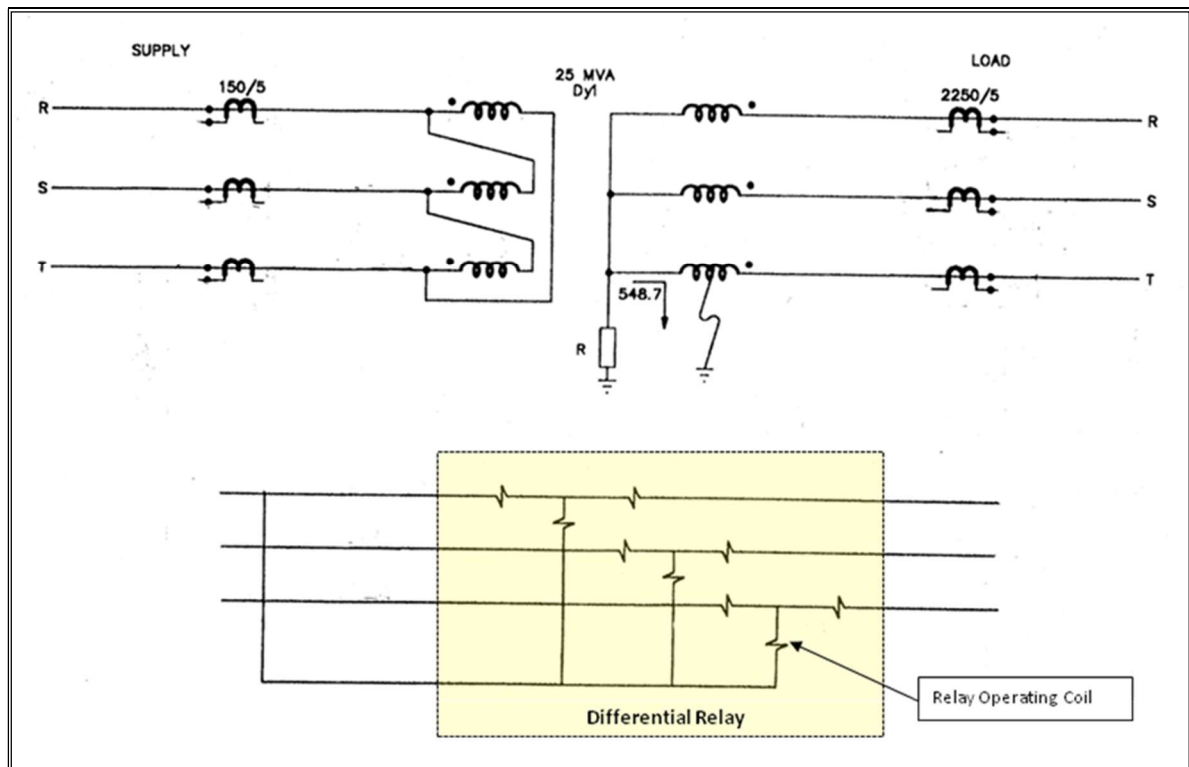

Figure Q3: Incomplete Schematic of a Differential Protection
Figure Q3 shows an incomplete schematic diagram of a protection arrangement for a 115/13.2 kV Dy1 power transformer. The transformer is rated at 25 MVA. Current transformers (CT) ratio is 150/5 A on the 115 kV side and 2250/5 A on the 13.2 kV side.
- (b) A single-phase to earth fault at the middle of the LV winding as indicated in Figure Q3 has resulted in a fault current of 548.7 A. The differential relay is set to operate at 5% of the CT rating. Calculate whether this earth fault could cause the relay to operate. State any assumptions made.